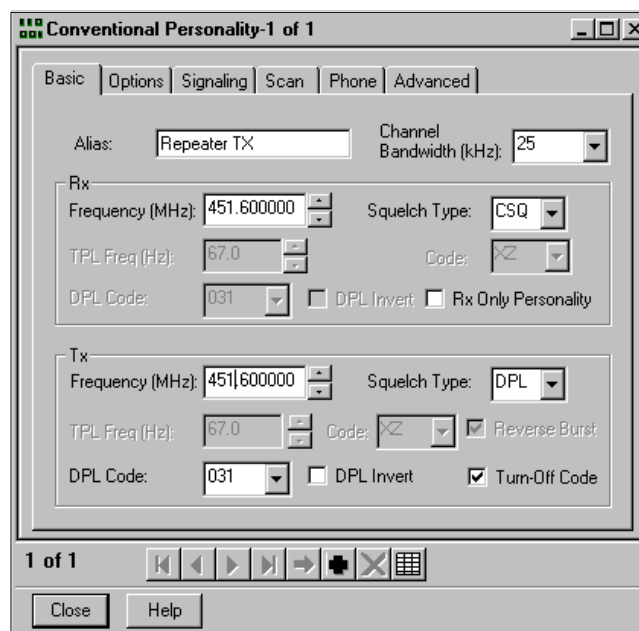

Figure 8-13. Conventional Personality, Basic, Transmit Radio
23. Select the transmitter “Squelch Type:” based upon the type of operation that is required (CSQ, TPL or DPL). Your screen should appear similar to Figure 8-13.